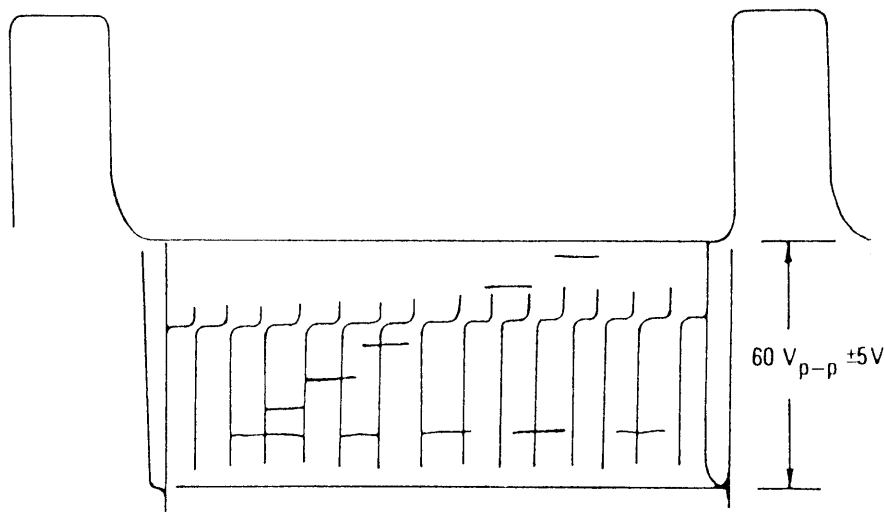

Fig. 11
4. Adjust SUB-CONTRAST control (VR401) to obtain the waveform as in Fig. 11.